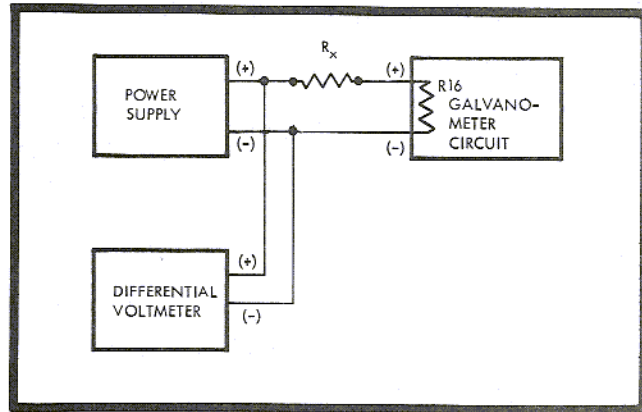
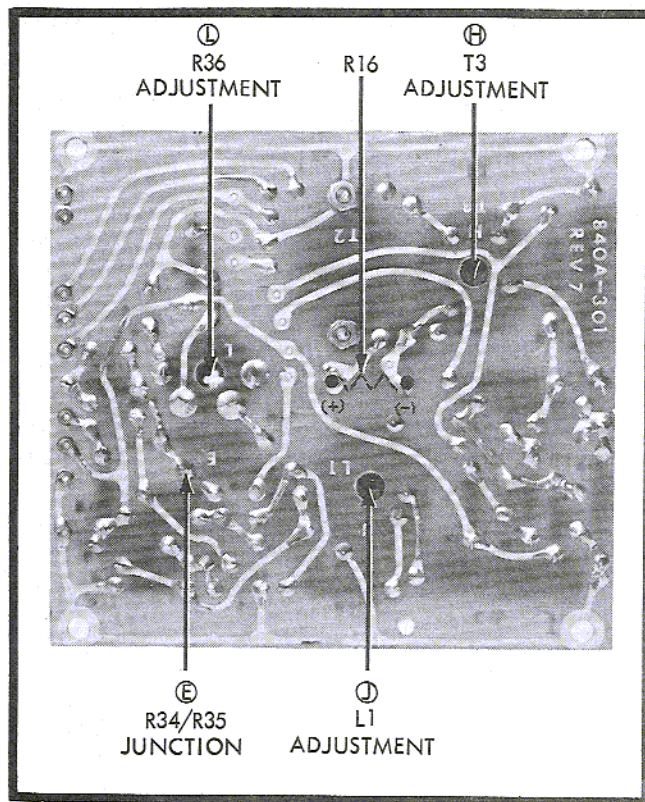

Figure 4-3. ELECTRONIC GALVANOMETER CALIBRATION
Figure 4-4. TUNED CARRIER AMPLIFIER ADJUSTMENTS
**4-16. TUNED CARRIER AMPLIFIER ALIGNMENT.** Remove the side cover on the galvanometer side of the Model 540B. Refer to Figure 4-4 for adjustment and connection locations. Connect equipment as shown in Figure 4-3 and use a 1 megohm  $\pm 1\%$  resistor for  $R_x$ . Proceed as follows:
**4-17. TUNED CARRIER AMPLIFIER GAIN.** Check and readjust, if necessary, the mechanical zero of the GALVANOMETER meter. Connect the equipment as shown in Figure 4-3 and use a 10 megohm  $\pm 1\%$  resistor for  $R_x$ .
- d. Connect the 885 differential voltmeter to either end of R16 and one of the T2 mounting screws (see Figure 4-4).